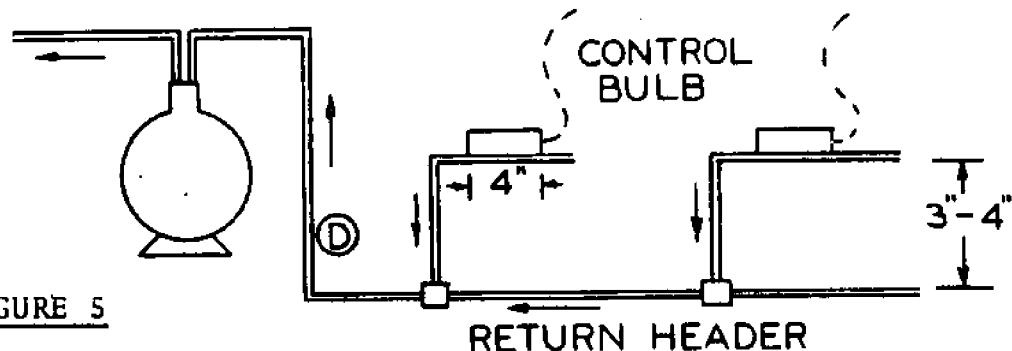

FIGURE 5
On multiple refrigerant circuits, it's important to drop each return line down into the main suction header, rather than push the gas up into the main header (Figure 5). This will prevent slugs of oil from clogging individual circuits, leading to uneven distribution of refrigerant and perhaps to erratic behavior of the expansion valve. This configuration might make it necessary for oil separated out near the control bulb to be pushed up to the compressor through a return line illustrated by (D) in Figure 5. If the return line is properly sized, the gas velocity will usually be sufficient to carry the oil up the vertical rise to the compressor. However, if this is more than 10 or 20 feet, it may be necessary to use a "P-trap" and double suction riser, which serves as a gas velocity increaser
The performance of the expansion valve is shown by the frost point occurring around the control bulb, or thermostat bulb. When several different refrigeration circuits or return lines are dumped back into a common suction line (as in Figure 5), it's possible to see which circuits are not running properly (and, therefore, which expansion valves may need adjustment) by looking at the frost line for each circuit.